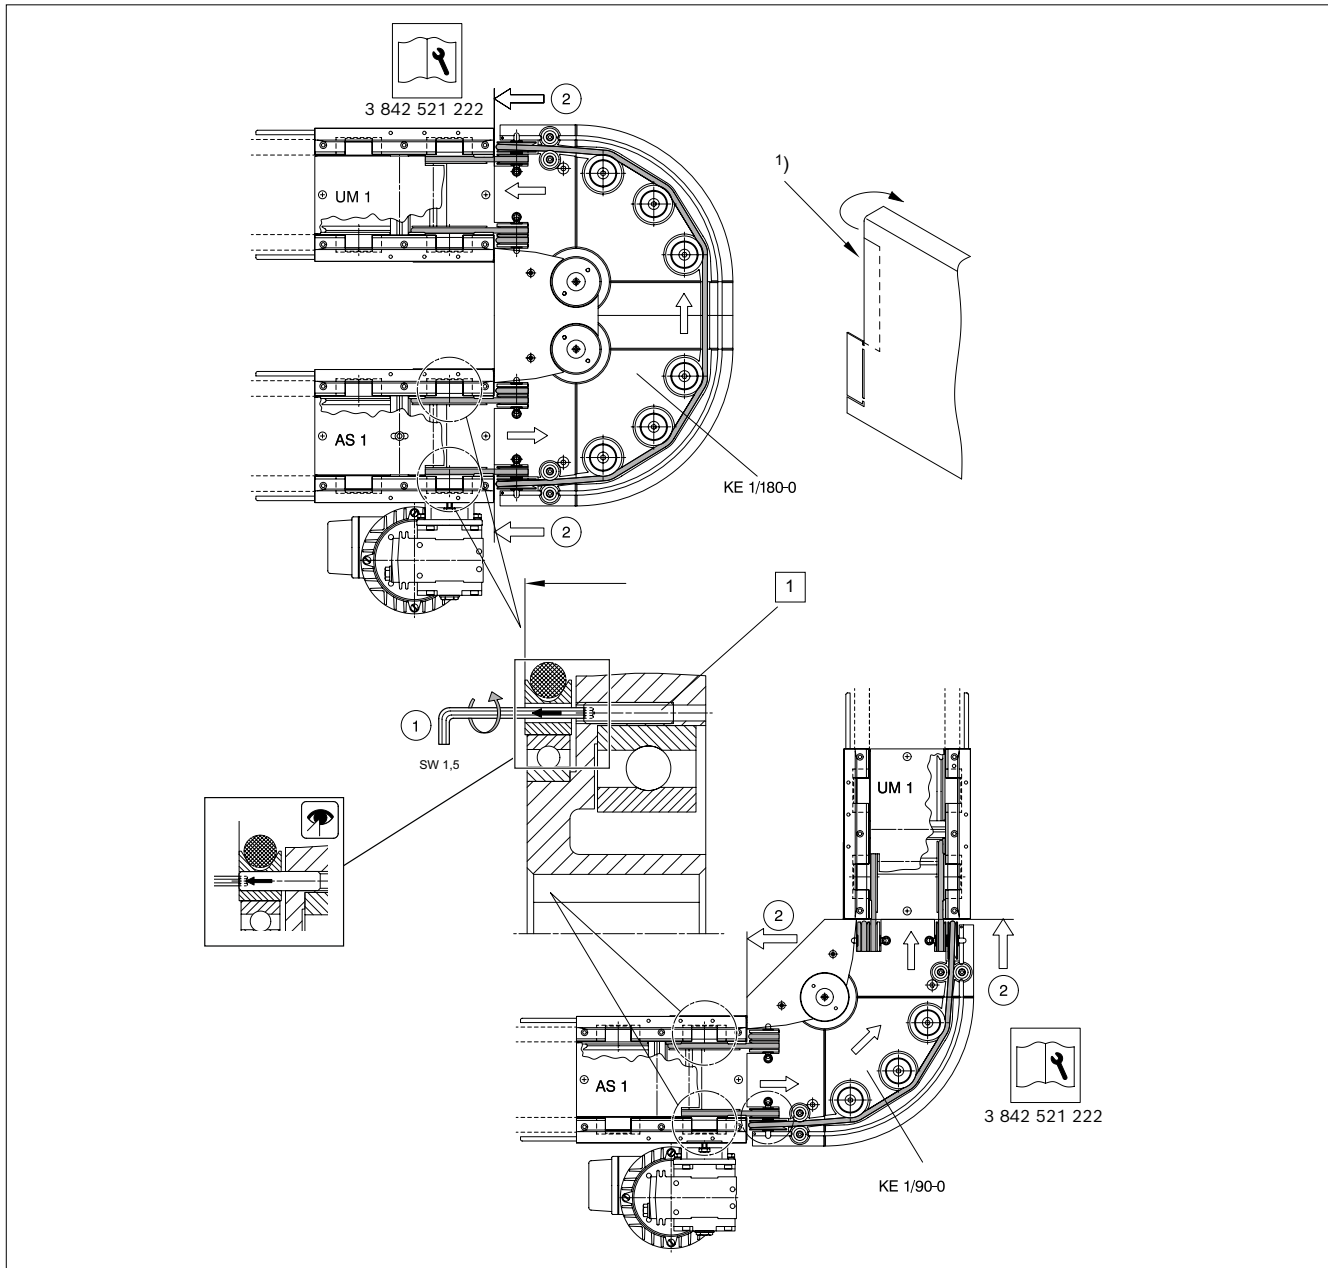

Fig. 15: Mounting of AS 1 at KE 1
- To do so, screw the headless setscrew M3 at the drive disks into the round belt disk until it is flush with the front edge (Fig. 15)!